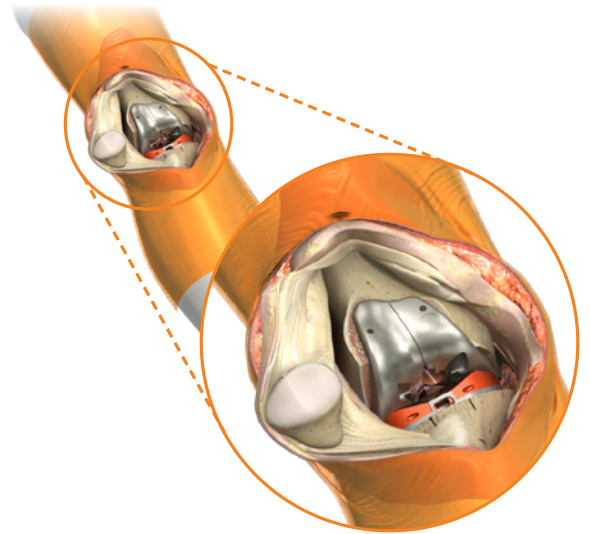

Figure 43
5. Use a cautery to mark the location of the laser marked lines on the anterior surface of the tibia to reference the baseplate rotation. (Figure 43)